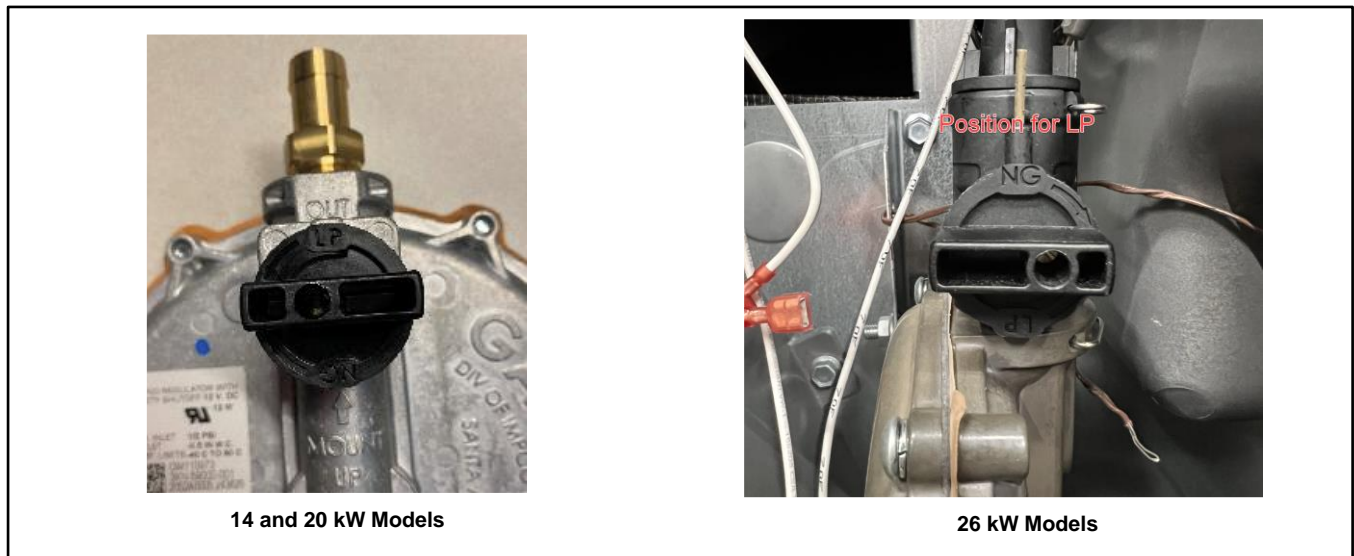

Figure 100 Knob Position, LPG
- b. For LPG, turn the selection knob counterclockwise as far as it will go, approximately  $\frac{1}{4}$  turn. See Figure 100.